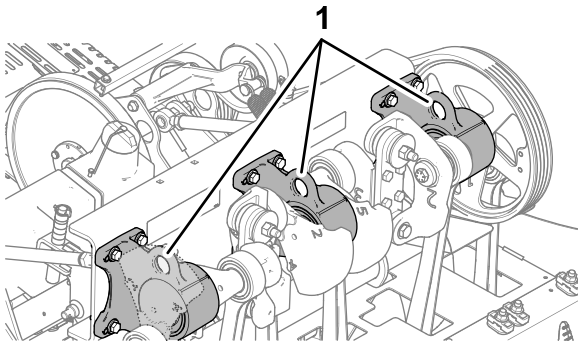

**Figure 129**
**Note:** If available, use a hoist to lift the rear of the machine. Use the eyelets in the coring-head bearing housings as hoist attachment points (Figure 129).